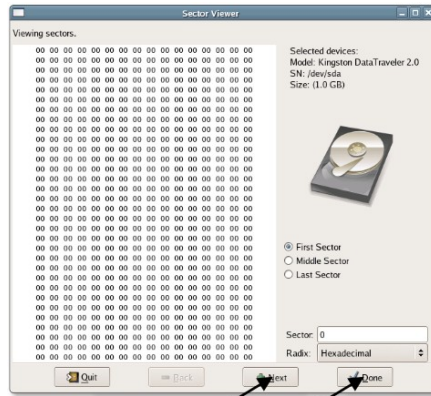

Figure 6.2 – Sector Viewer Screen
6.3 Use the “Next” or “Back” button to go to the next sector. You can also enter the sector number in the “Sector” input window. Figure 6.2 shows the button locations.